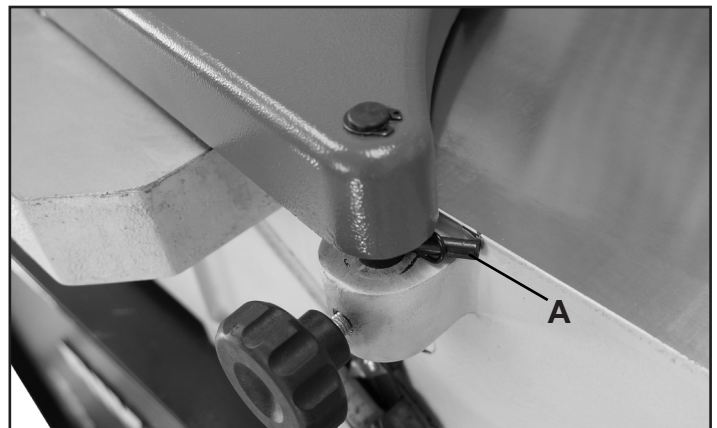

FIG. 13
1. Turn spring pin (A) approximately one-half revolution clockwise and hold.
2. Insert guard post into hole in table. Make sure spring pin rests and places pressure against the table casting. FIG. 13.